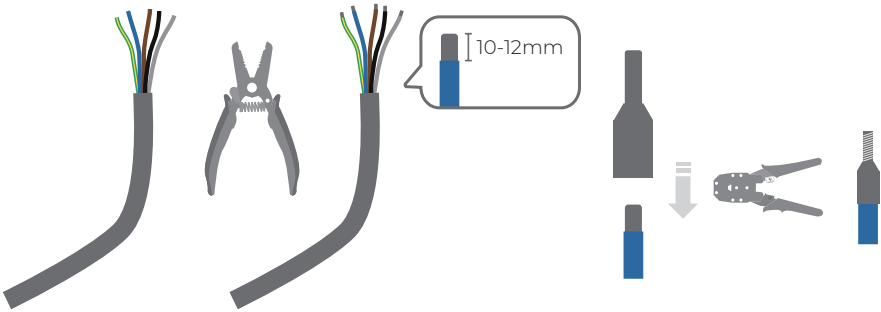

Fig. 5-13
4. Use a wire stripper to remove 10~12 mm of insulation from the prepared power wires, and crimp the exposed wire conductors with the crimping pliers. (See Fig. 5-13)